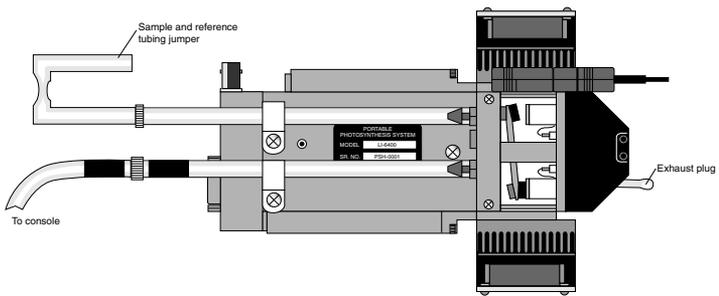

Figure 5-8. Hose configuration after changing the tubing to zero the IRGA.
- a. Disconnect the To-Sample tube (it has black heat shrink) from the jumper shown below (Figure 5-8).